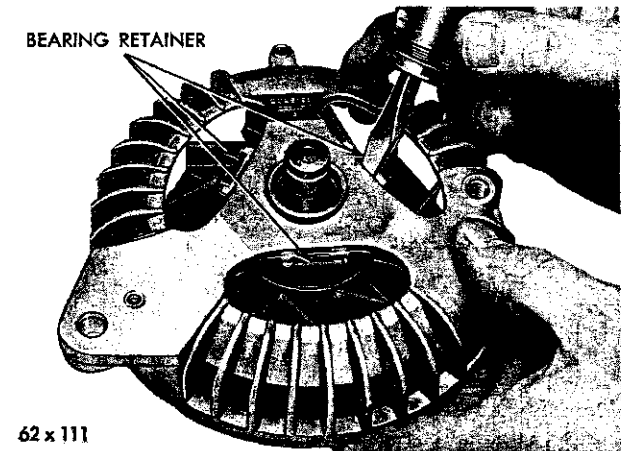

Fig. 59—Disengaging the Bearing Retainer from the End Shield
(5) Pry the drive end bearing spring retainer from the end shield with a screwdriver (Fig. 59).
(6) Support the end shield and tap the rotor shaft with a plastic hammer to separate the rotor from the end shield.